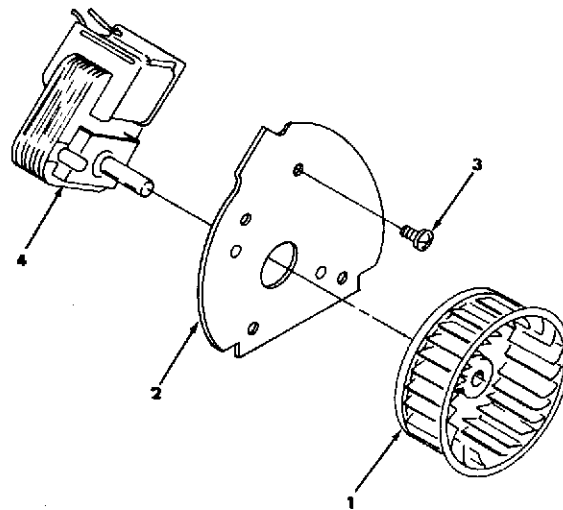
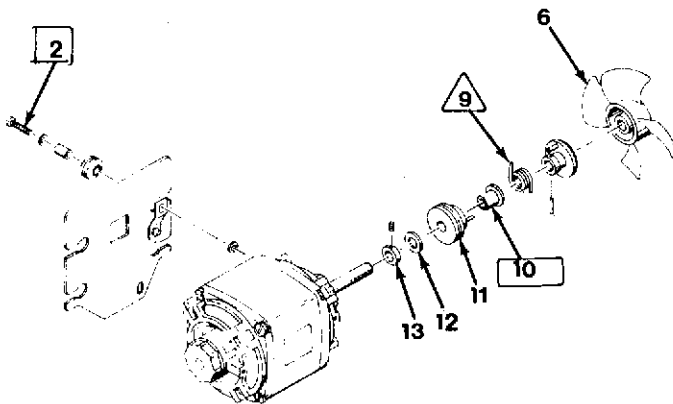

Figure 3-17. MOTOR AND PLATE ASSEMBLY
Figure 3-18. DRIVE UNIT ASSEMBLY
**5. Motor and Plate Assembly (Fig.3-17)**
- a. Apply Glyptal 7526 to threads and heads of screws (3).
- b. With motor shaft play taken-up toward motor, the distance between the wheel (1) and plate (2) must be within .080 to .100. The wheel must also clear screw heads while rotating.
**6. Drive Unit Assembly (Fig.3-18)**
- a. Lubricate inside diameter of spring (9) with Viscum No. 352 grease.
- b. Lubricate inside diameter and outside face of bearing (10) with FS-1290 grease.
- c. Collar (13) to be adjusted to allow pulley assembly (11) to rotate freely with .004 to .010 end play.
- d. Apply Glyptal 7526 to threads of screws (2).
- e. Push fan (6) onto shaft (pressure fit).